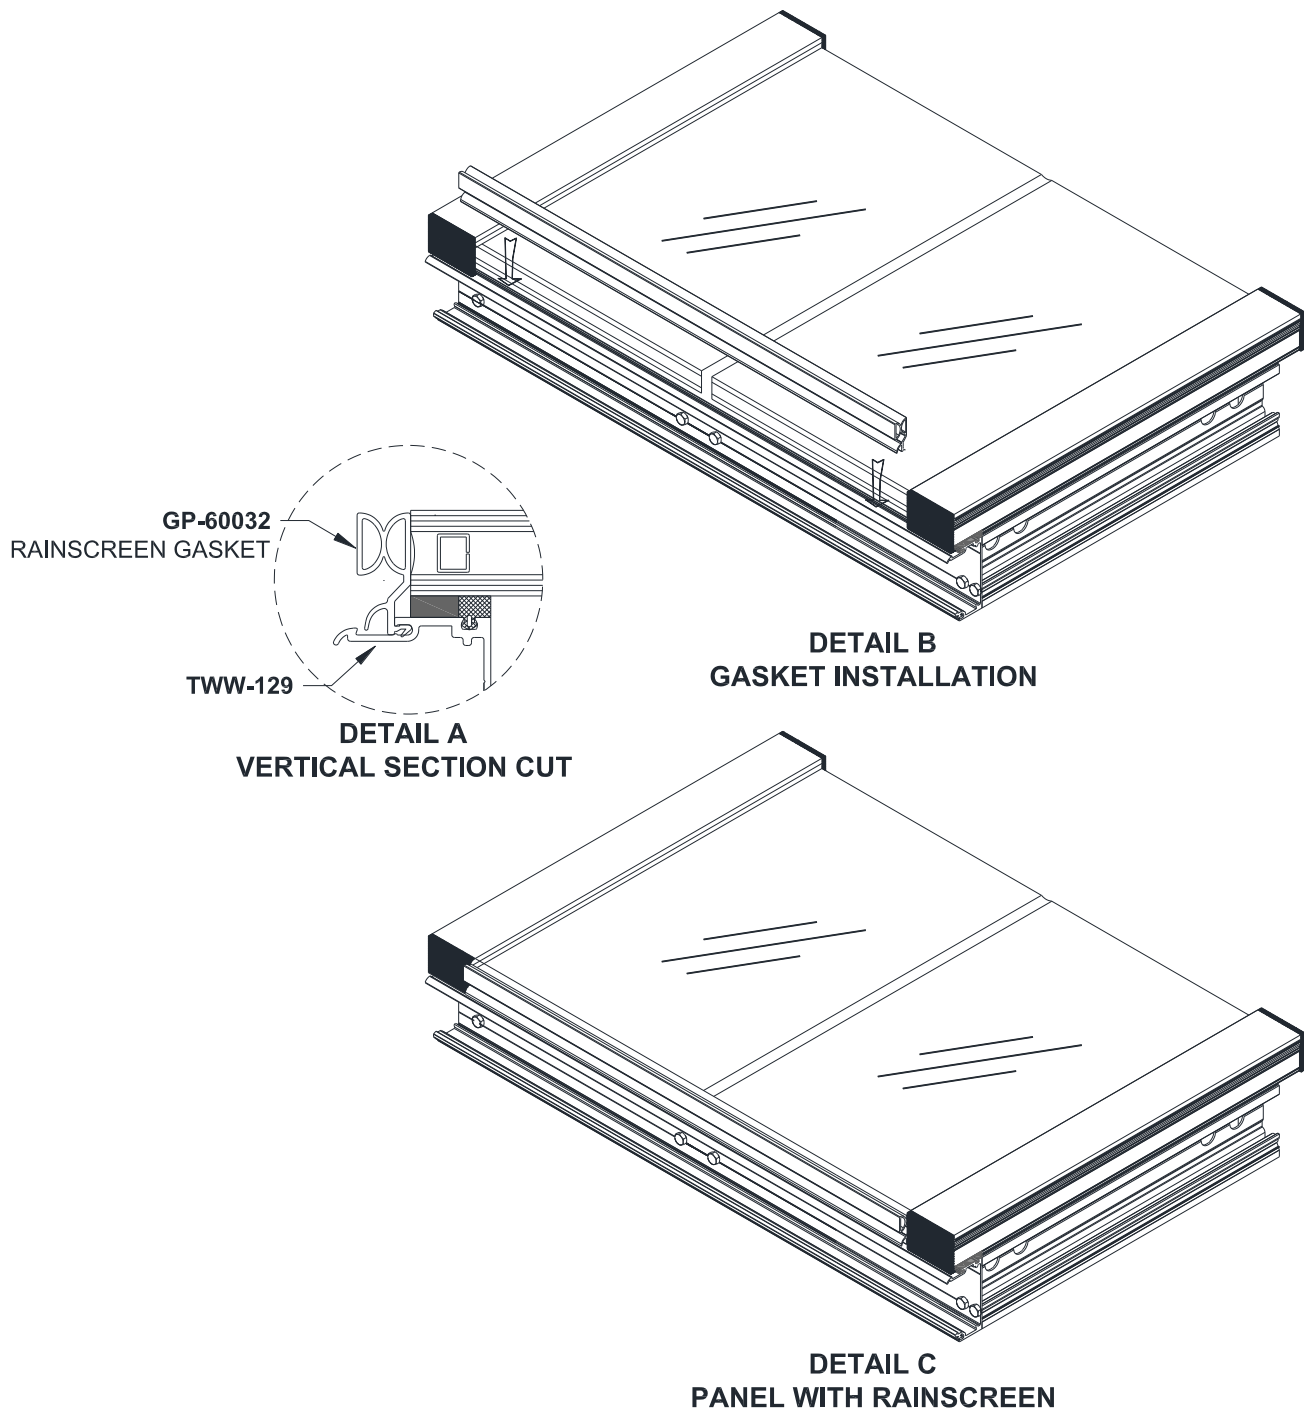

Figure 59: SSG Rainscreen Gasket Installation and Panel Completion
16.5.11 Using a small amount of Sealant at the top and bottom, install into the Vertical's reglet, as shown in Figure 59.